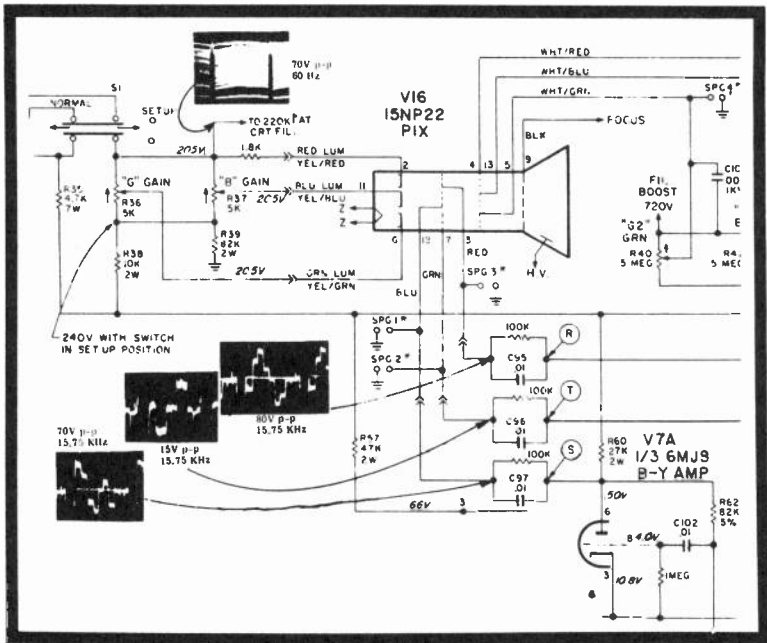

Fig. 2-4. Standard NTSC chroma output waveforms in a Zenith CM-114 chassis. Luminance signal is at top.
The highly useful but usually more expensive NTSC generator delivers carrier, sync, and pulse-shaped voltage levels to the chroma circuits of any receiver (Fig. 2-4), resulting in fully saturated colors that may number between 3 and 6, depending on the design of the individual generator. The amplitudes of the rectangular pulses in the set can be both positive and negative, depending on the action of the receiver's chroma demodulators, and each pulse occupies a unique level and position. The position and level tells you which red, blue or green output you're viewing, the condition of its demodulation, and the efficiency of its RGB-(Y) amplifier—all excellent things to know when either designing and-or troubleshooting chroma processing circuits. Notice the
different pedestal levels and relative waveform time-intervals of the pulses at the RGB amplifier outputs in Fig. 2-4. The pulse peaks represent the largest amplitude swings out of each amplifier, and you can roughly estimate relative timing (without a triggered sweep oscilloscope) by the position of negative-going 11-microsecond blanking pulse before the start of each new cycle.
A little less than two cycles of each waveform are showing in each of the RGB-Y waveforms in Fig. 2-4. For instance, the B-Y amplifier swings fully positive at the beginning of every new cycle, then begins to descend while the R-Y amplifier output is rising. Meanwhile, the G-Y amplifier swings almost fully negative several microseconds after blanking. This sequence should indicate that the first color bar would be blue, the second magenta, and the third might well be a combination of red-blue (the total absence of a time base is confusing) which could equal a third color, with blue substituted for yellow-white. So red-blue equals red-yellow + white equals 0 and yellow equals red + white. Therefore, yellow is the third color in the sequence, at least for the present best estimate. Shortly, we'll demonstrate what you see exactly in a gated (sidelock) rainbow generated signal.